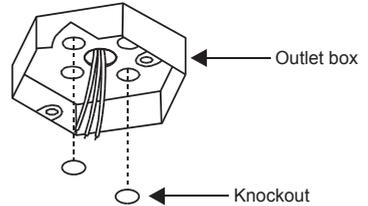

Fig. 5
1. Remove two knock-outs from the outlet box to expose the joist. (Fig. 5)